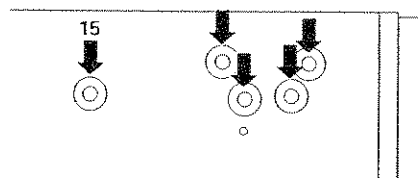
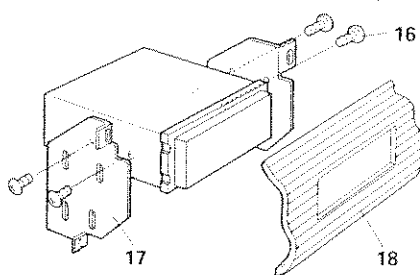

Fig. 10
Fig. 11
2. Fastening the unit to the factory radio mounting bracket. (Fig. 10) (Fig. 11)